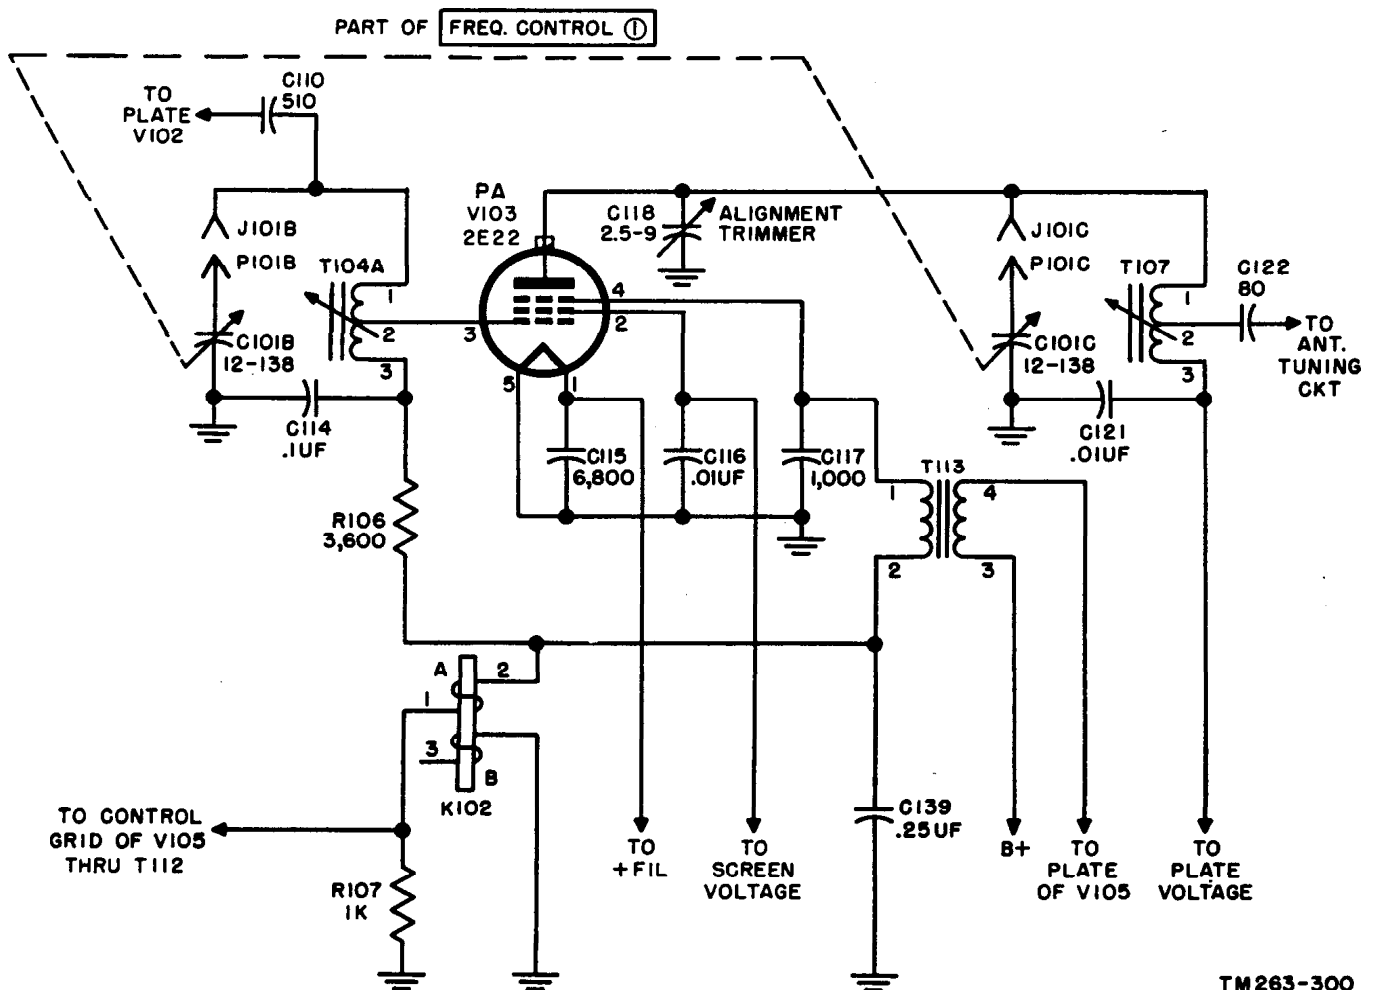
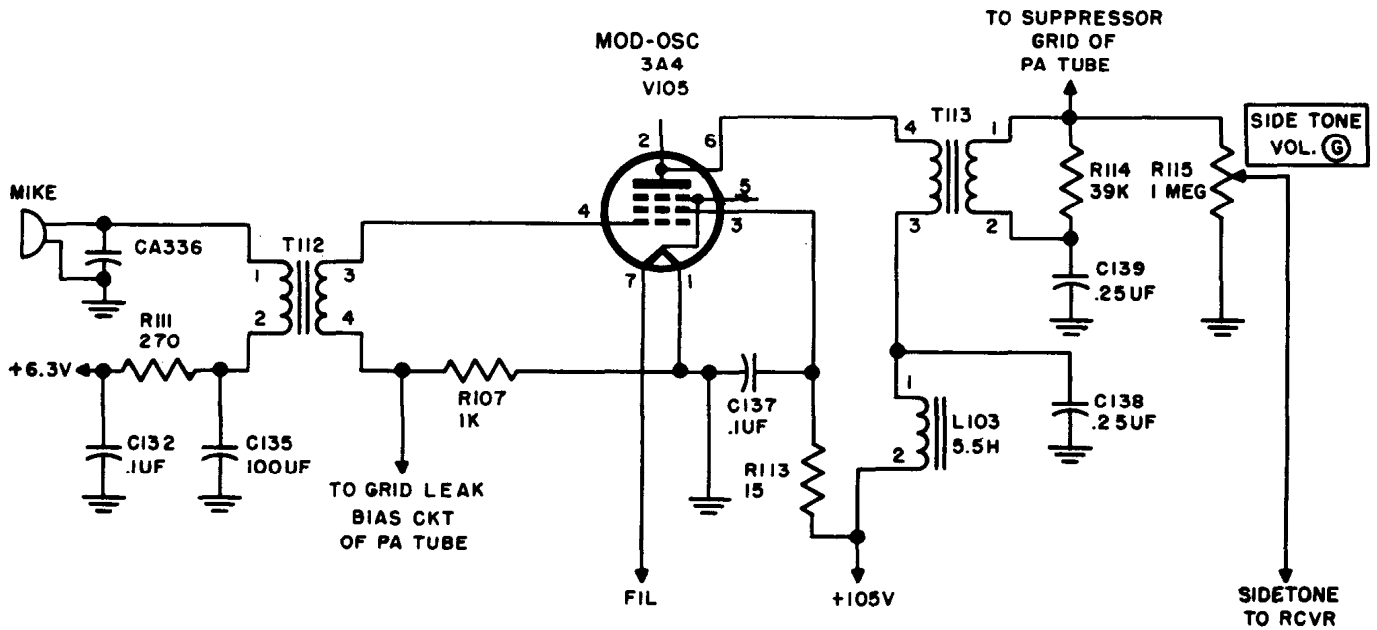

Figure 76. Pa stage, simplified schematic diagram.
Figure 85. Modulator (voice) stage, simplified schematic diagram.
106. Power Amplifier (fig. 76)
b. *Microphone Circuit* (fig. 85). The af variations are fed from the mike to matching transformer T112 and then to the control grid of V105 to complete the signal circuit. The dc filament supply of the transmitter furnishes the proper excitation voltage for the mike. The mike current (dc) flows through the carbon granules of the mike, terminals 1 and 2 of the primary of T112, through current limiting resistor R111, and to the positive terminal of the filament supply to complete the dc excitation path of the mike. Capacitor CA336, located inside the mike, is a filter to bypass any disturbances set between the carbon granules. Capacitor C135 is a filter capacitor which is used to lessen microphone hiss. Capacitor C132 is a bypass to prevent interference from entering the filament supply.
c. *Am Operation* (fig. 85). The audio variations fed to the control grid are amplified and appear across the modulation transformer T113. The suppressor grid of the pa stage is connected in series of the secondary of T113 and biased by the negative voltage developed by the control grid current flowing through K102A and R106 (fig. 76). The modulation voltage, therefore, varies the voltage on the suppressor grid in accordance with the intelligence in the microphone.
- (1) The bias used on the modulator control grid, pin 4, is supplied from the pa